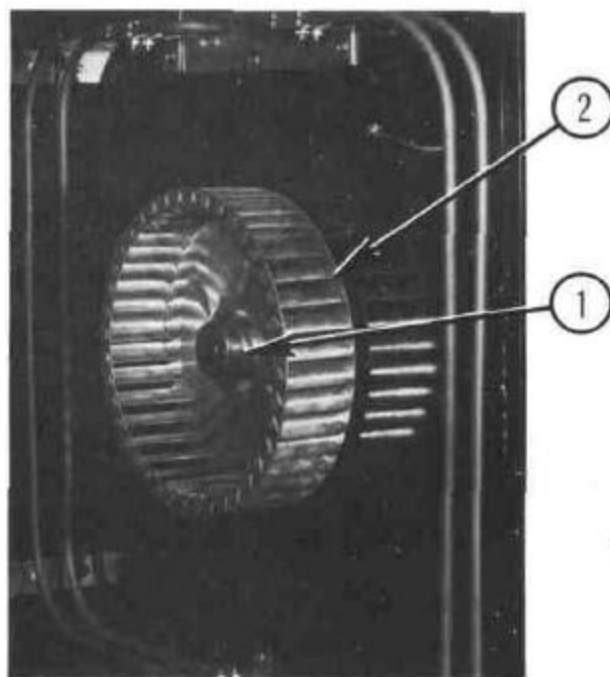

Figure 4-2
3. Loosen set screws (Fig. 4-2 No. 1) on the wheel hub.
4. Pull blower wheel (Fig. 4-2 No. 2) off of shaft.